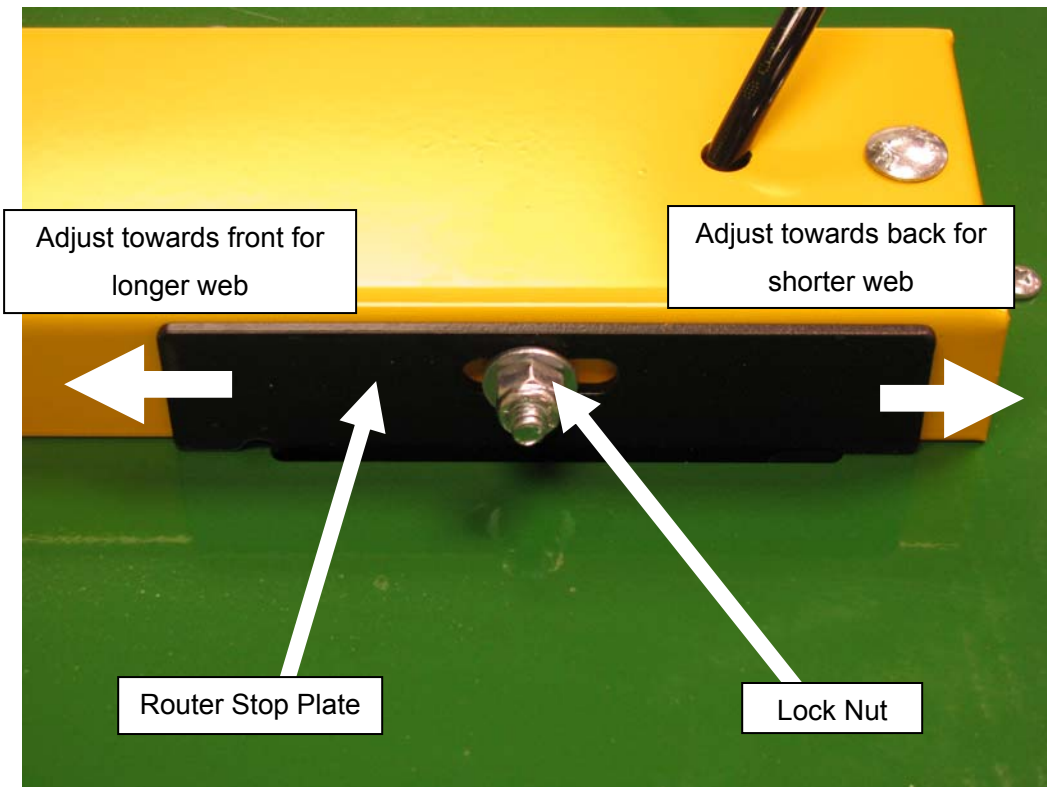

Fig 10
2. It is held in place by a 1/4” lock nut. **See Fig 10.**